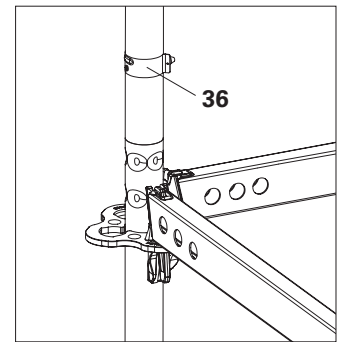

Fig. C1.02
2. Connect the Standards with locking pins (**36**) so that they are tension-proof. (Fig. C1.02) Alternatively: Use bolt M 10 x 70 with nut.